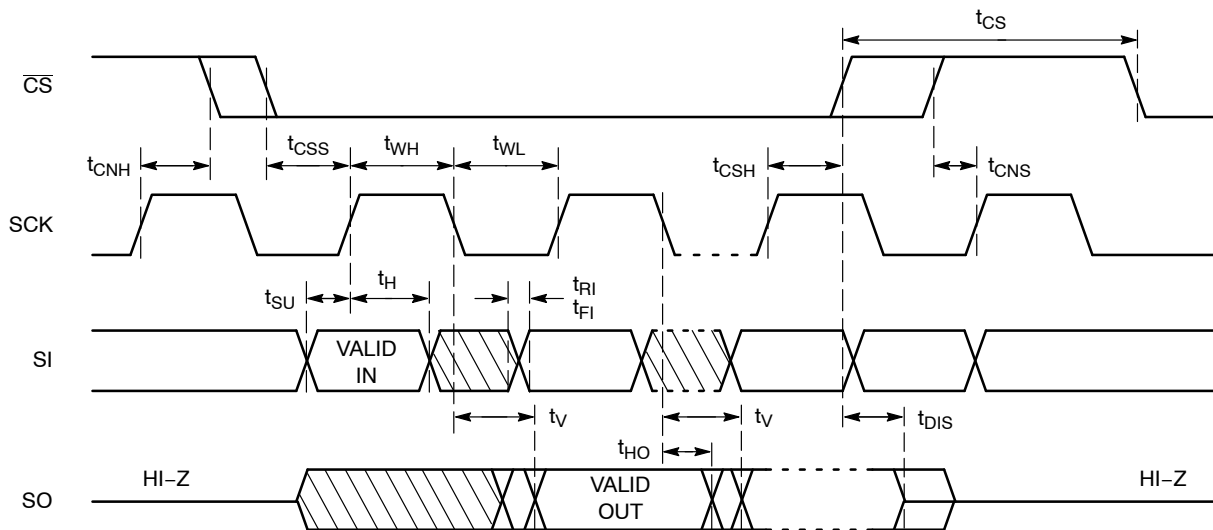

Figure 2. Synchronous Data Timing
7. **All Chip Select (CS) timing parameters are defined relative to the positive clock edge (Figure 2). t_{CSH} timing specification is valid for die revision D and higher. The die revision D is identified by letter "D" or a dedicated marking code on top of the package. For previous product revision (Rev.C) the t_{CSH} is defined relative to the negative clock edge.**
After a high to low transition on the $\overline{\text{CS}}$ input pin, the CAT25128 will accept any one of the six instruction op-codes listed in Table 7 and will ignore all other possible 8-bit combinations. The communication protocol follows the timing from Figure 2.